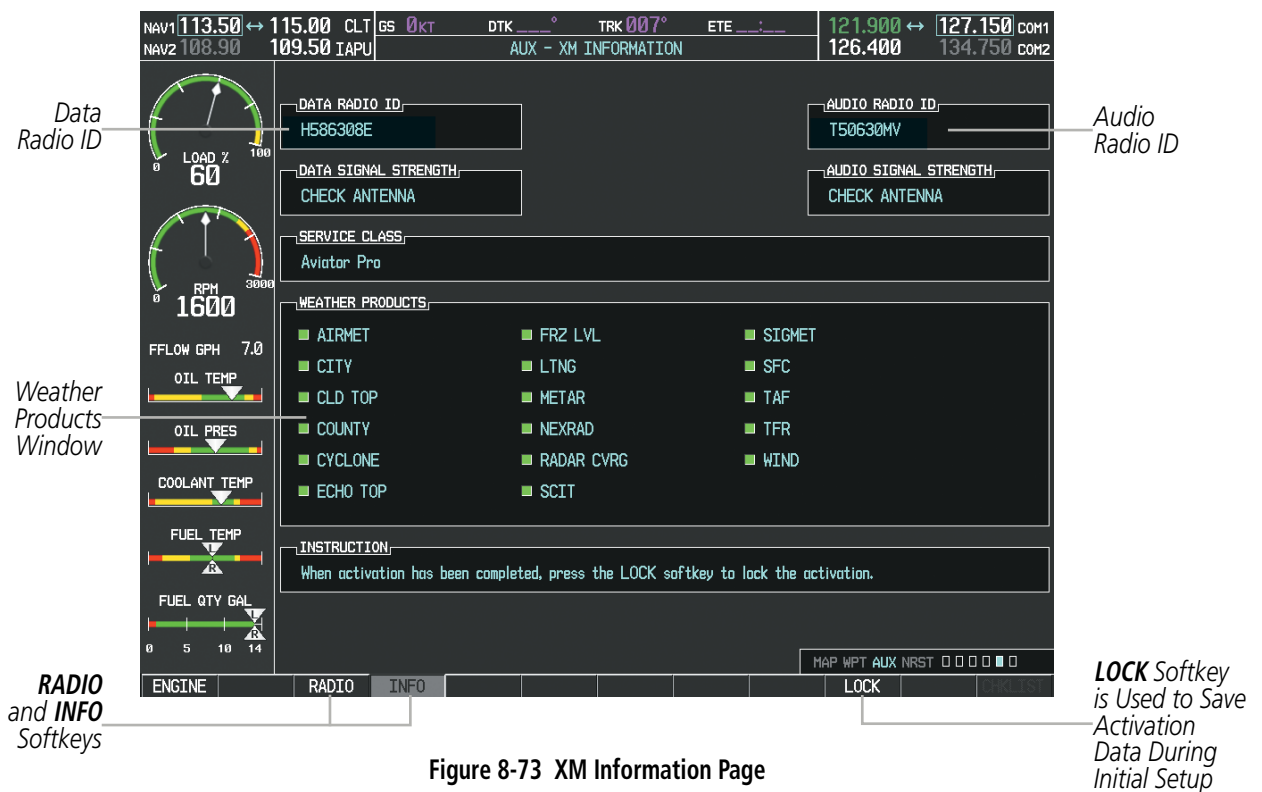

Figure 8-73 XM Information Page
- On the XM Information Page on the MFD (Figure 8-73)